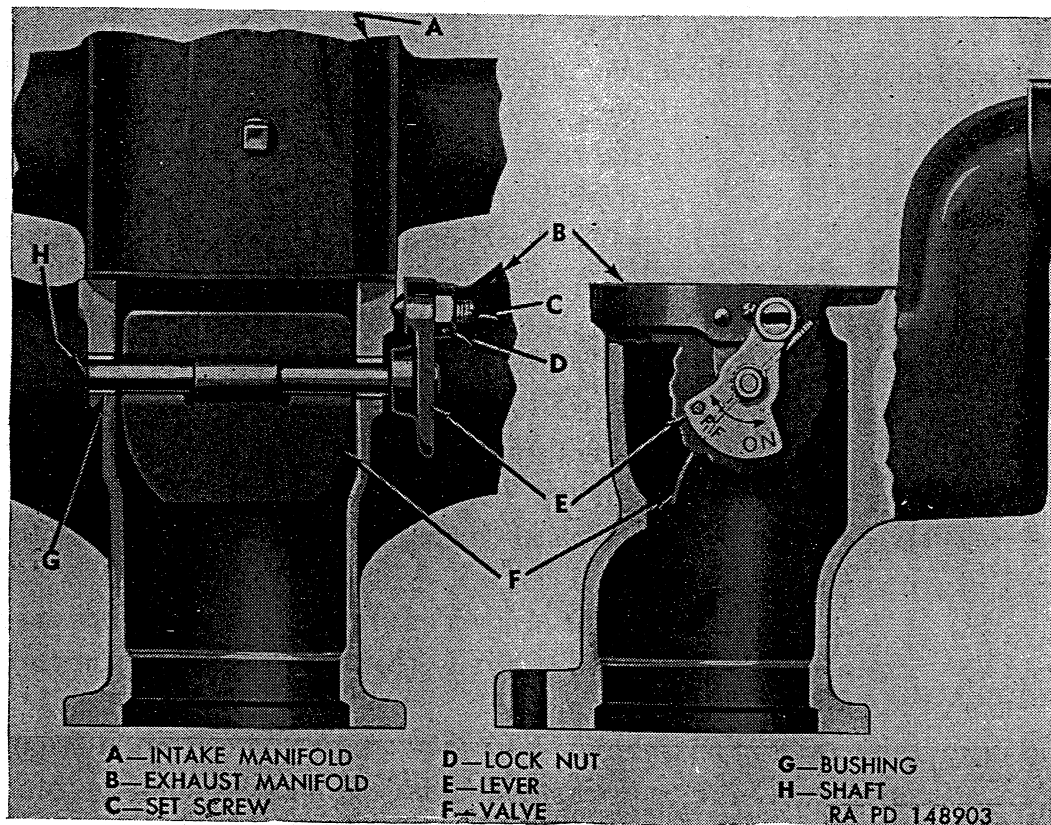

Figure 132. Manifold heat control.
*a. General.* Adjustable valve in exhaust manifold is provided to control temperature at intake manifold center section where incoming fuel mixture is preheated. There are three positions for heat control lever (E, fig. 132). Correct setting is important to efficient engine operation and fuel economy.